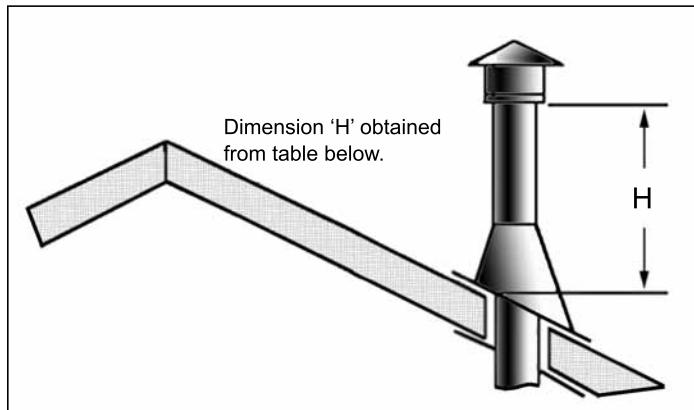

Figure 34: Height of Vertical Termination;
STEP 8. Continue to add pipe sections until the height of the vent cap meets the minimum code requirements. Refer to Figure 34 and Table 6. Note that for steep roof pitches, the vent height must be increased. In high wind conditions, nearby trees, adjoining roof lines, steep pitched roofs, and other similar factors can result in poor draft, or down drafting. In these cases, increasing the vent height may solve the problem.
Table 6: Minimum 'H' for Figure 34.